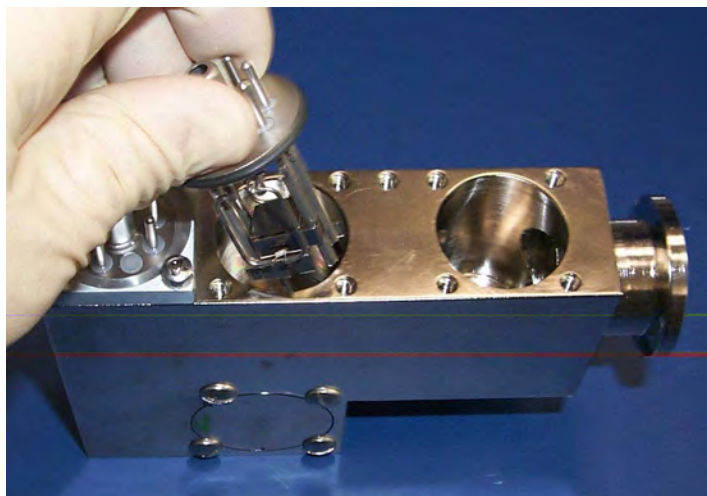

Figure 4-12 Removing the Ion Source
2. Remove the ion source from the spectrometer tube body (Figure 4-12).
7. Gently slide the ion source out of the spectrometer tube body (Figure 4-12 on page 4-13).